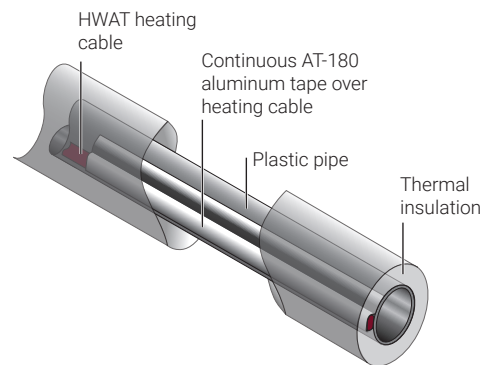

Fig. 1 HWAT heating cable installed with aluminum tape
1. Secure the HWAT heating cables to the plastic pipe with aluminum tape continuously along its length, as shown in Fig. 1.